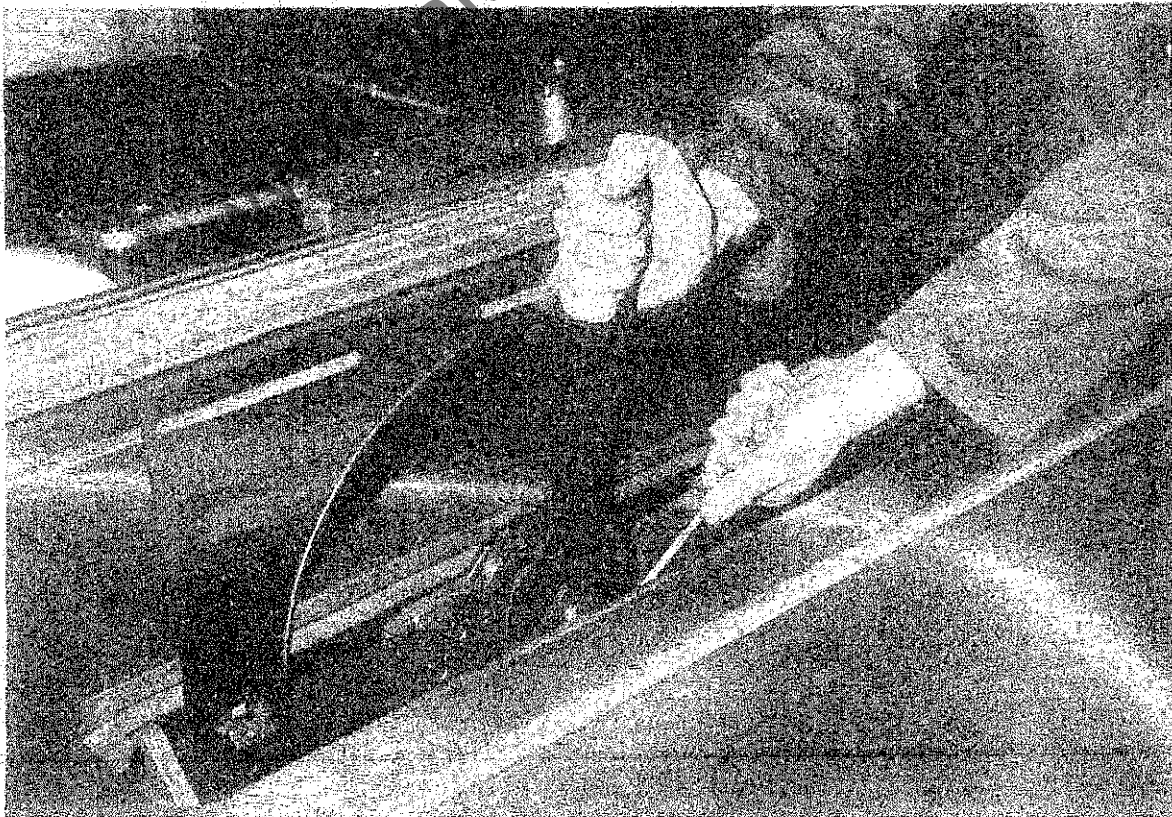

FIG.13
- e) Locate 8mm allen key (supplied) in main saw spindle as shown FIG.13, then remove spindle nut (left hand thread) with spanner (supplied) and front saw flange.